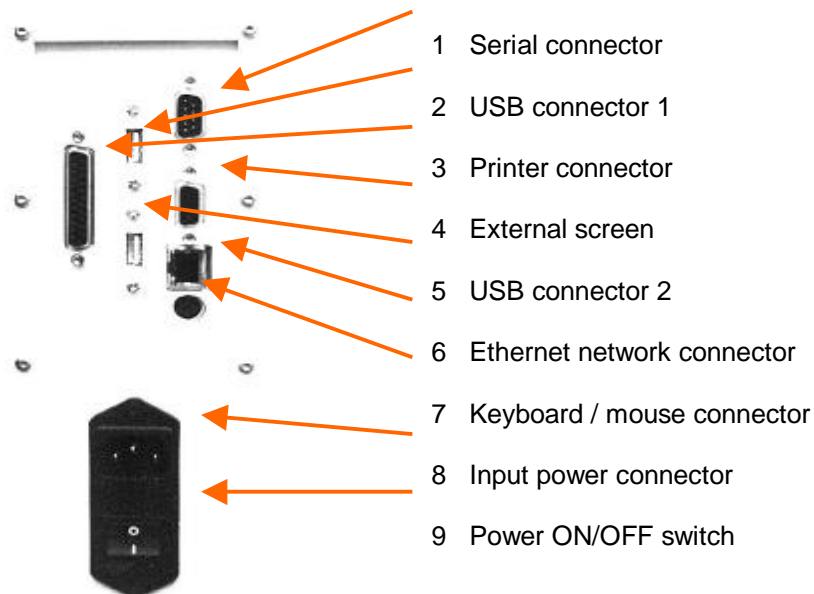

Fig. 4.1: Connectors of the OmegAnalyzer F
The following elements can be found at the rear panel (see figure 4.1):
1. Connect one end of the power cable to the input power connector at the rear of the OmegAnalyzer F (pos. 7 in Fig. 4.1) and the other end to an AC source providing 210 – 260 V AC and 50 – 60 Hz or 110 – 130 V AC and 60 Hz.
2. If a printer is to be used, connect the corresponding cable to the printer connector at the rear of the instrument (pos. 2 in Fig. 4.1).